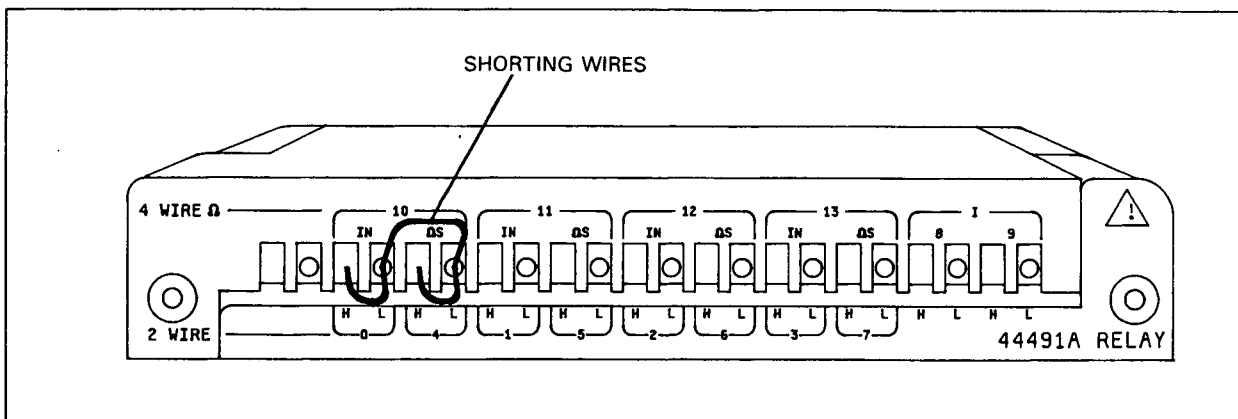

Figure 4-21. HP 44491A Terminal Block Assembly Connections
- Connect shorting wires to the channel 10 inputs of the Terminal Block assembly as shown in Figure 4-21.